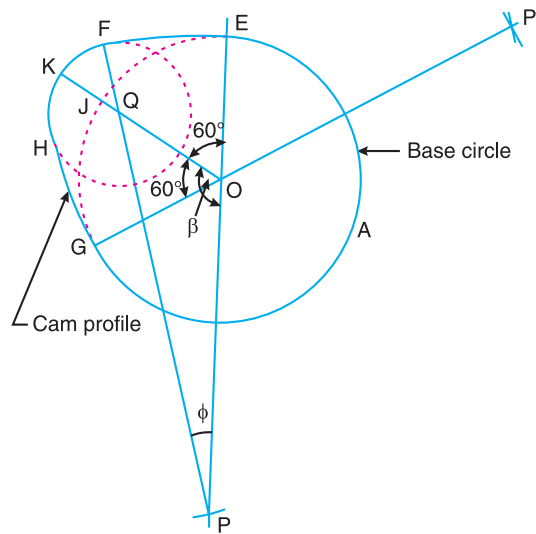

Fig. 20.47
A symmetrical cam with convex flanks operating a flat footed follower is shown in Fig. 20.47. From the geometry of the figure,
The profile of the cam, as shown in Fig. 20.47, is drawn as discussed in the following steps :
- Produce EO and GO as shown in Fig. 20.47. Now with Q as centre and radius equal to $PQ = R - r_2 = 79.4 - 12 = 67.4$ mm, draw arcs intersecting the lines EO and GO produced at P and P' respectively. The centre P' may also be obtained by drawing arcs with centres O and Q and radii OP and PQ respectively.